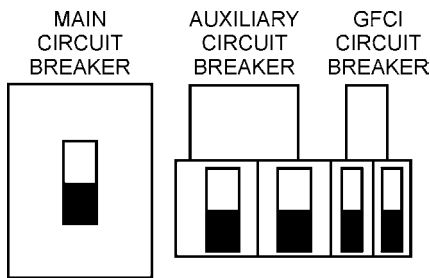

Figure 50. Main, GFCI and Load Circuit Breakers Off
1. Place both the **MAIN, GFCI and LOAD** circuit breakers as shown in Figure 50 to the **OFF** position..
1. Place the **main, G.F.C.I., and aux.** circuit breakers (Figure 50) in the **OFF** position.